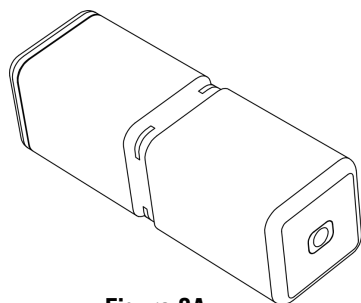

Figure 3A
3.1 Custos WWD Main Unit x 1 "Figure 3A"